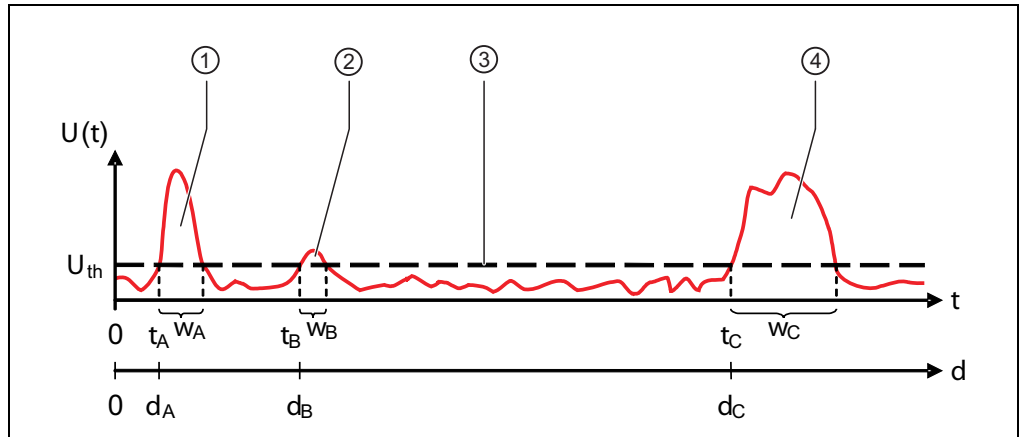

Fig. 3-3: Multi-echo capability
In the example shown in Fig. 3-3, a reflected echo of a glass pane yields a high voltage over a short period of time.
**Example for a case with three echoes, see Fig. 3-3**